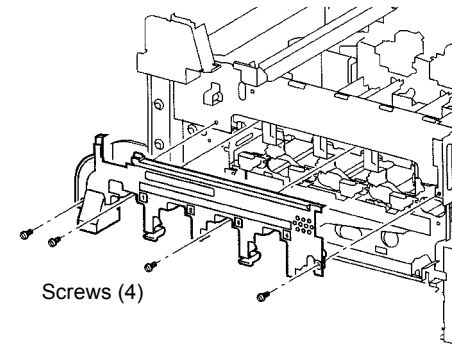

Figure 1 Removing Toner Transport Cover
6. Remove Dispenser Assembly Cover (Figure 1).
- a. Remove Screws (4).